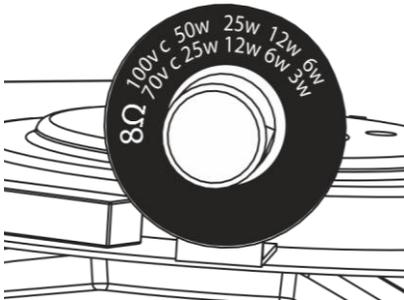

Figure 4: Adjust Tap Selector
7. Adjust each speaker to the appropriate tap setting (see Figure 4).